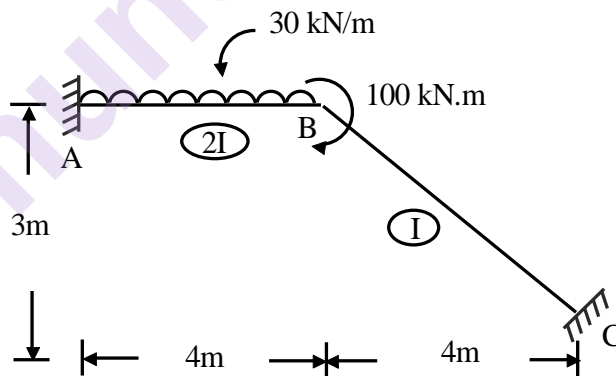

Fig.2
2. Analyse the frame as shown in fig. 2 by slope deflection method. Draw B.M.D. 16